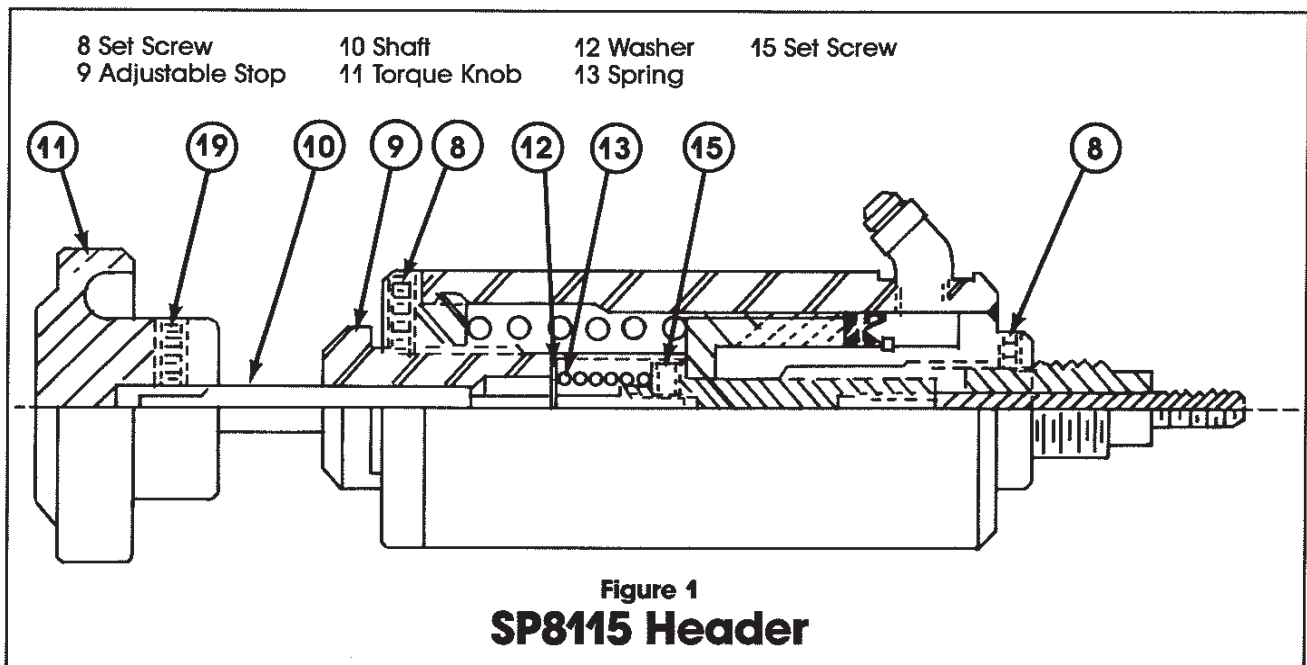

Figure 1
Pull-Up Stud and Anvil Adjustment or Replacement (Reference Figure 1.)
(Reference Figures 1 and 2)
- Rotate the Adjustable Stop (9), Figure 1, clockwise into the body of the header to decrease pull-up. Rotating the Adjustable Stop counterclockwise increases the pull-up.